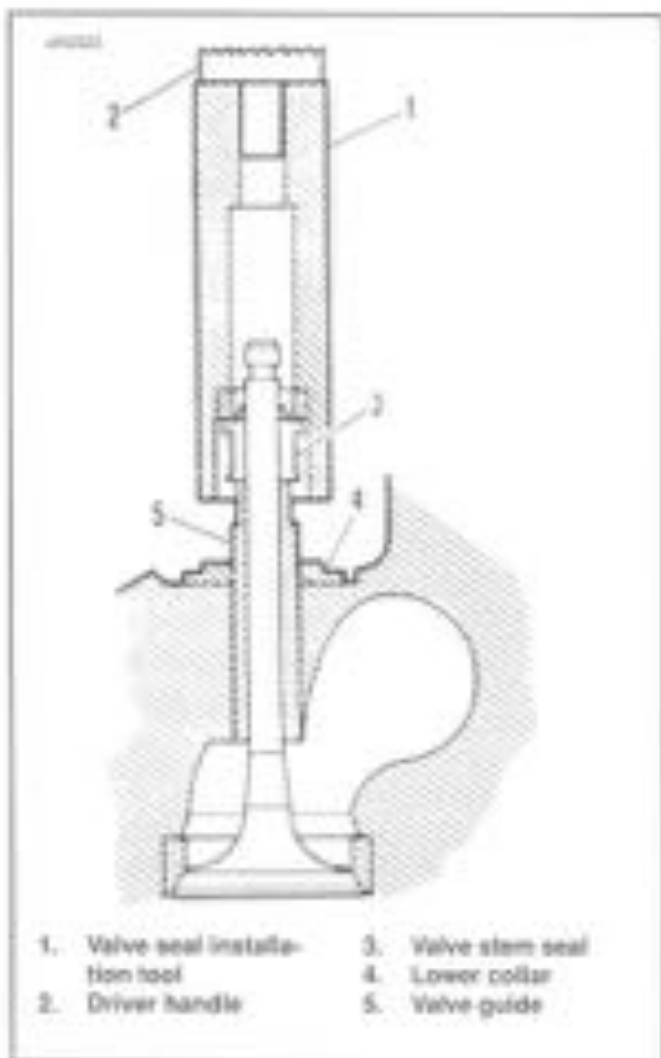

Figure 3-23. Valve Seal Installation
5. See Figure 3-23. Insert valve into guide and install lower collar (4).
7. See Figure 3-23. Tap the seal onto the guide using the VALVE SEAL INSTALLATION TOOL (Part No. HD-34643A) and DRIVER HANDLE (Part No. HD-34748). The seal is completely installed when the tool touches the lower collar (4).